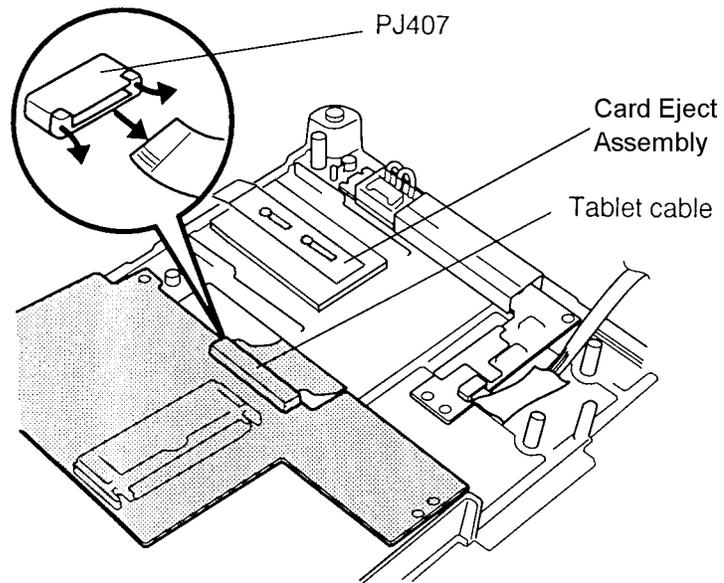

Figure 4-15 Disconnecting the Tablet Cable
5. Carefully rotate the lower system board out of its seating and disconnect the **tablet cable** from **PJ407** (Figure 4-15).
1. Place the card eject assembly into the middle frame, then connect the **tablet cable** to **PJ407** and carefully rotate the lower system board (Figure 4-15).